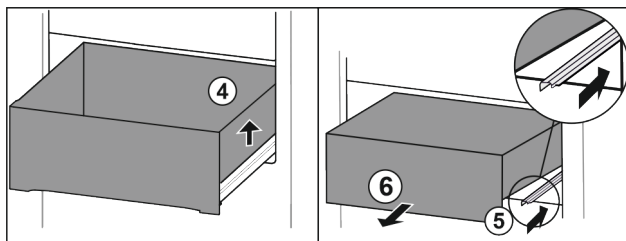

Fig. 22
- Lift drawer on the right. Fig. 22 (4)
- Slide in right rail. Fig. 22 (5)
- Remove drawer to the front. Fig. 22 (6)